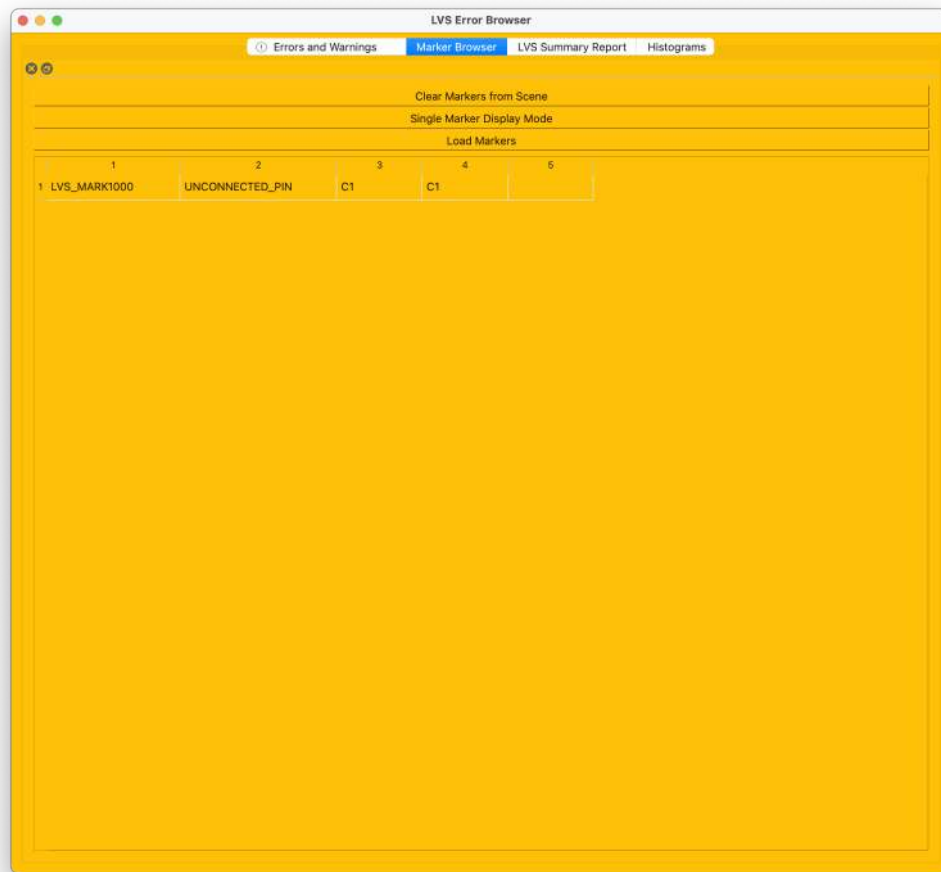

Figure 62: gcd1_LVS017 marker list: one UNCONNECTED_PIN marker for pin C1.
8. Image description (Marker Browser). Figure 62 lists the single marker generated for this case. Selecting it in the GUI centers the view on C1 so you can inspect the missing metal/via connection.